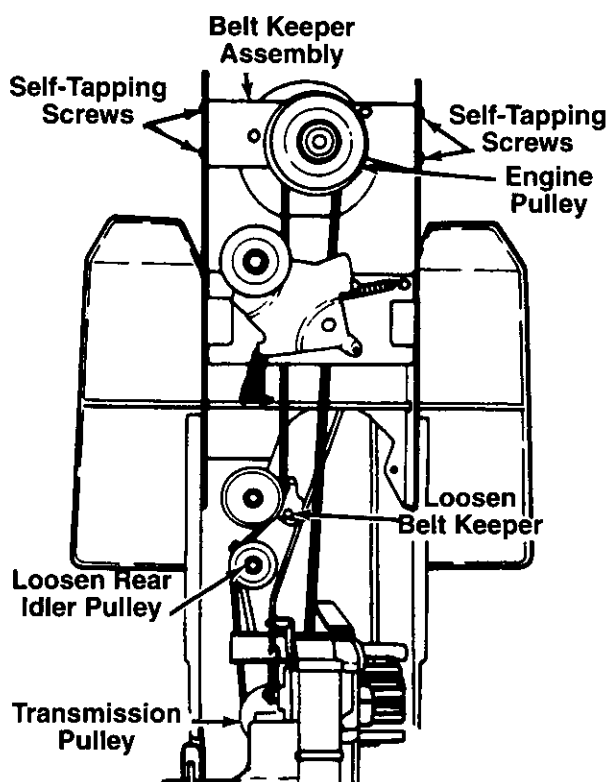

FIGURE 26.
### DRIVE BELT (See figure 26)
4. Remove the four self-tapping screws which hold the belt keeper assembly to the frame at the engine pulley. Push the belt keeper assembly forward, out of the way. See figure 26.